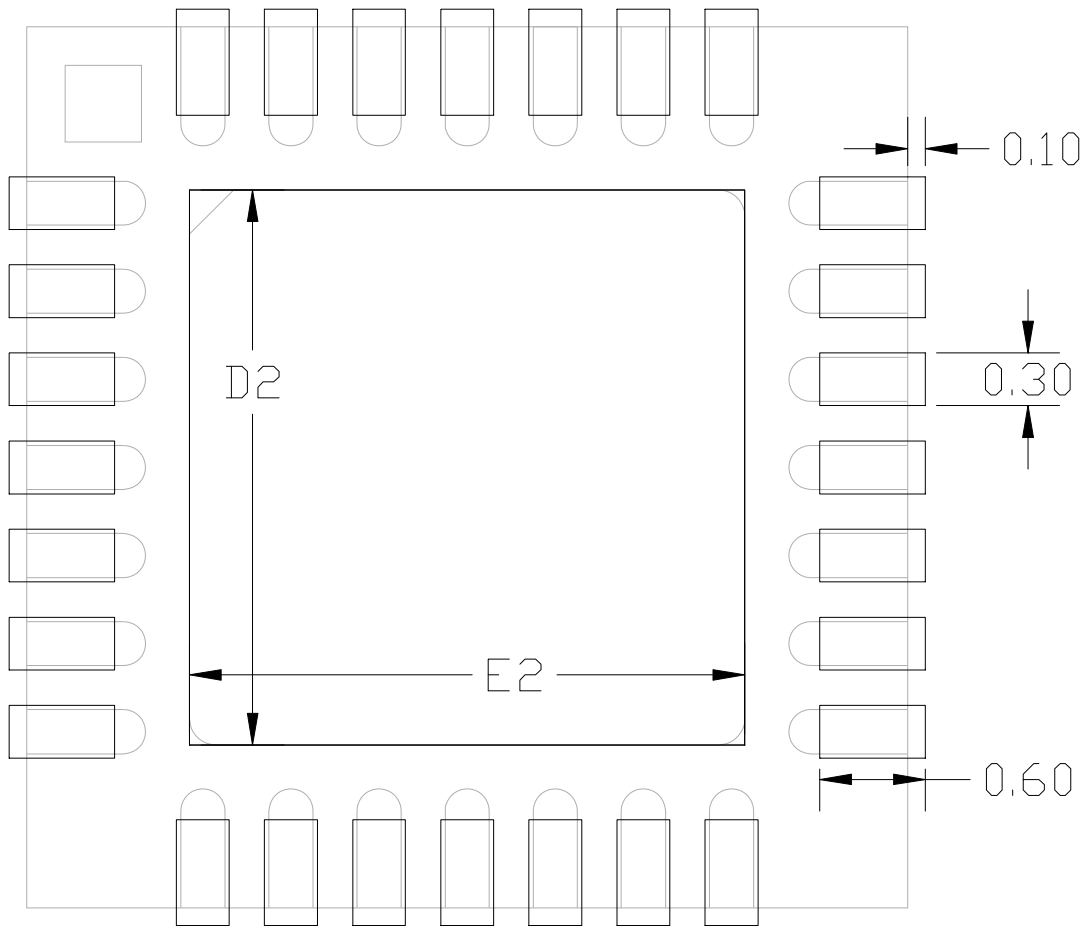
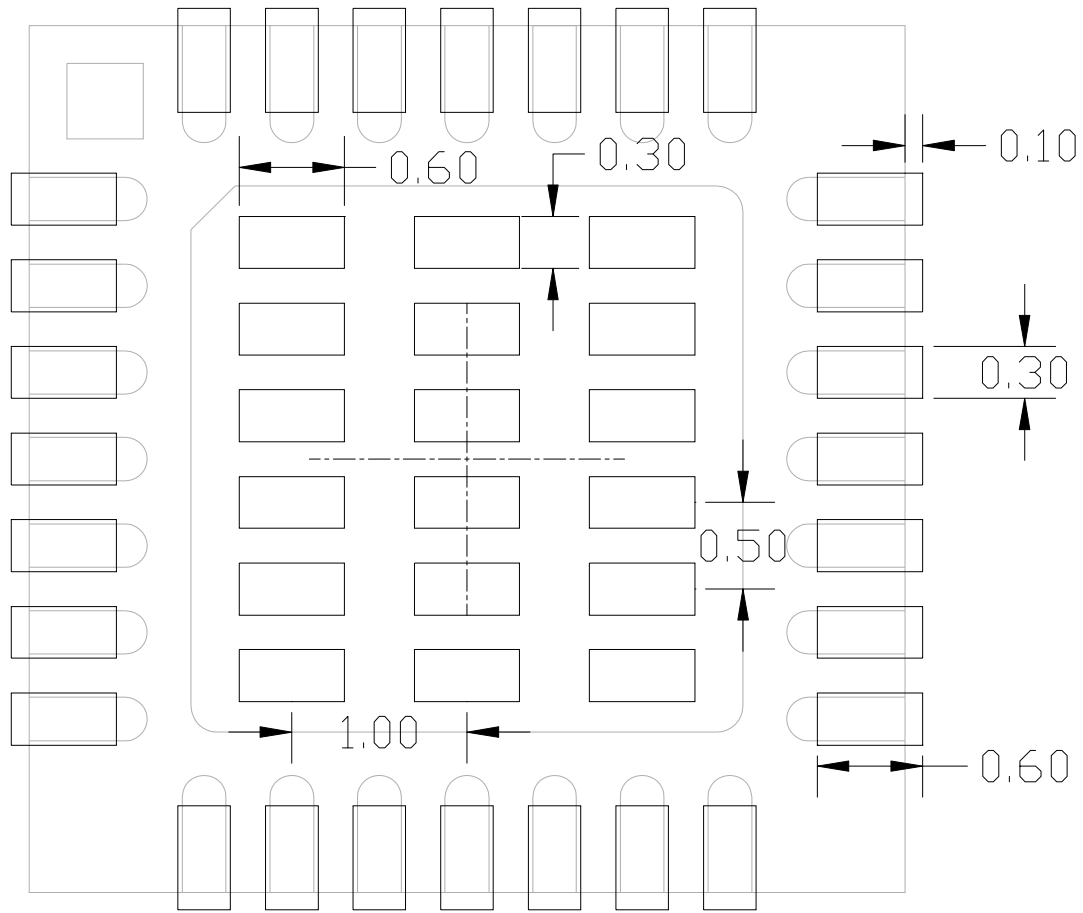

Figure 4. Typical QFN-28 Land Pattern
Figure 5. Typical QFN-28 Solder Paste Diagram
- Updated package drawings in Figure 3, Figure 4, and Figure 5.